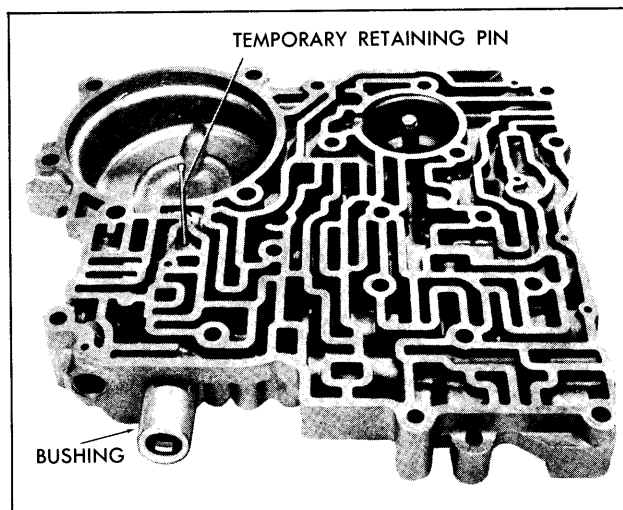

Fig. 7E-138 Temporary Retaining Pin Installation
### Assembly (Fig. 7E-137)
1. Install the 1-2 accumulator primary spring in 1-2 primary valve and install both, spring end first, into bore, using a retaining pin as a temporary retainer to hold the spring and valve in its operating position until the bushing assembly is installed. Pin goes into first drilled hole in port. (Fig. 7E-138)